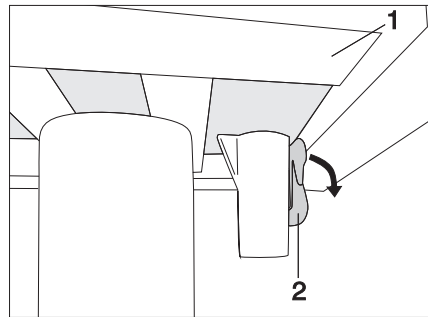

Fig. 97 Lock single-column table (locked)
- Push the locking lever (Fig. 97,2) down.
- Move the table-top (Fig. 97,1) to the desired position.
- Press the locking lever (Fig. 97,2) back upwards.